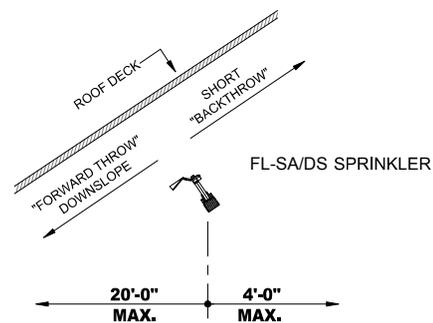

FIGURE 36: SPRINKLER FRAME ORIENTATION TO ROOF SLOPE
- Installed in the upright position with deflector parallel to roof deck (i.e. sprinkler centerline perpendicular to the roof slope). See Figure 36.